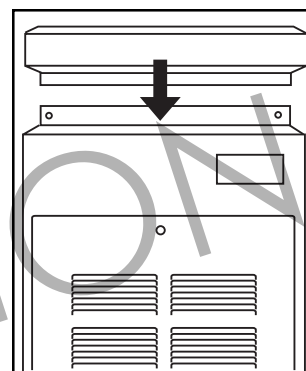

Figure 9.
9. Replace boiler top and all eight screws (see Figure 9).